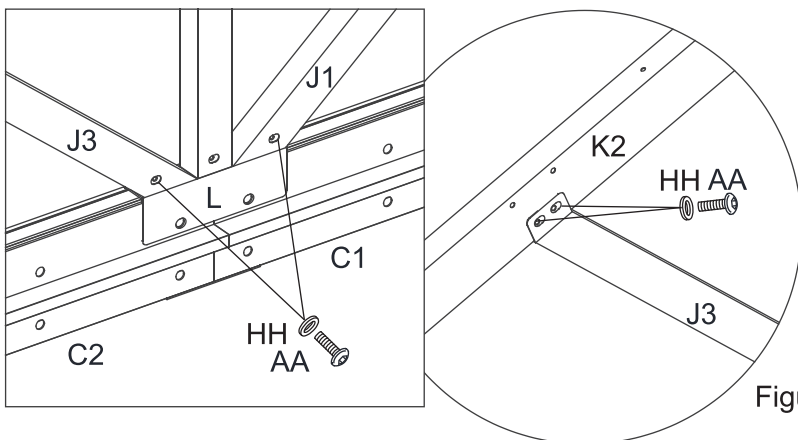

Figure 7.3
7.3 Connect the Support Tube (J1/J3) with the Bilateral Cant Beam (K1/K2) and Top Beam Guard (L), fix them with Bolts (AA) and Washers (HH) .See Figure 7.3.